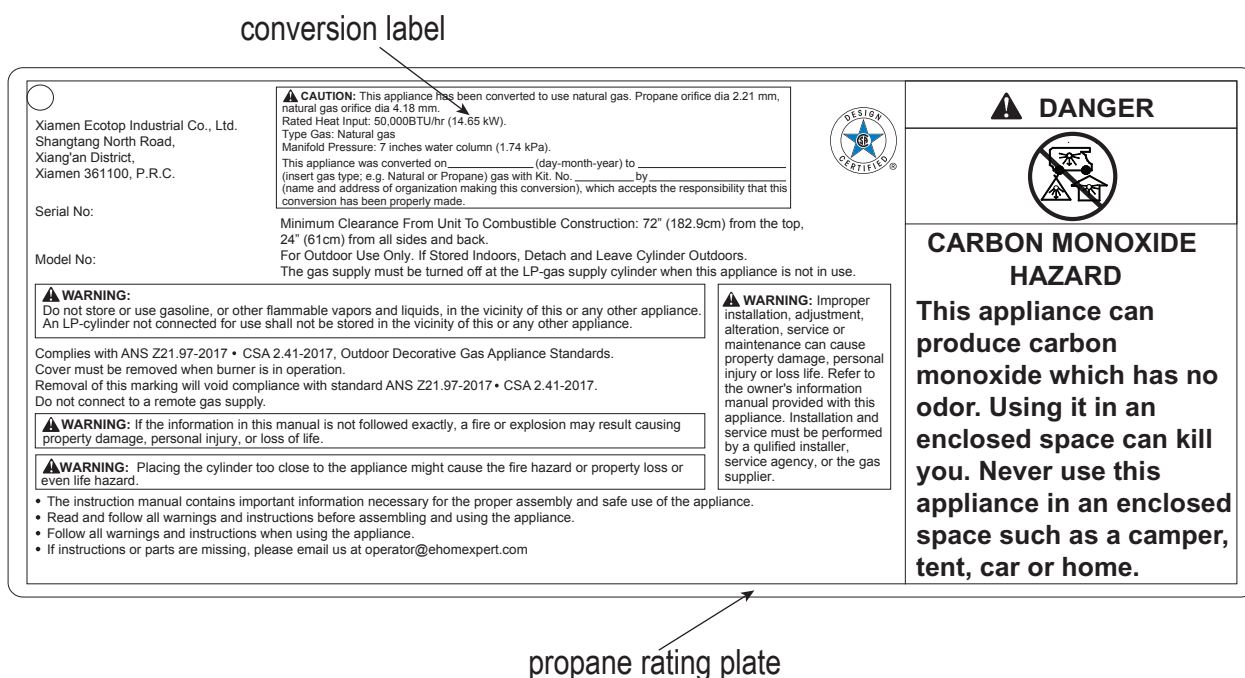

Figure 17
5. Stick and cover the conversion label onto the propane rating plate (see Figure 17).